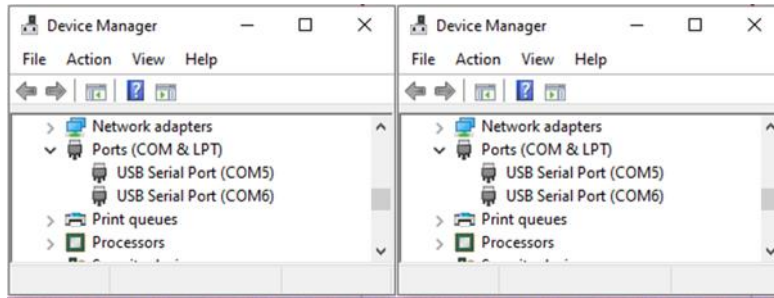

Figure 3. Windows – COM ports
- For Windows, the two COM ports are displayed in the Device Manager (see Figure 3).
The lower numbered COM port (COM5 in Figure 3) is for the DA16200/DA16600 debug interface. The higher numbered COM port is for the DA16200/DA16600 AT command interface.